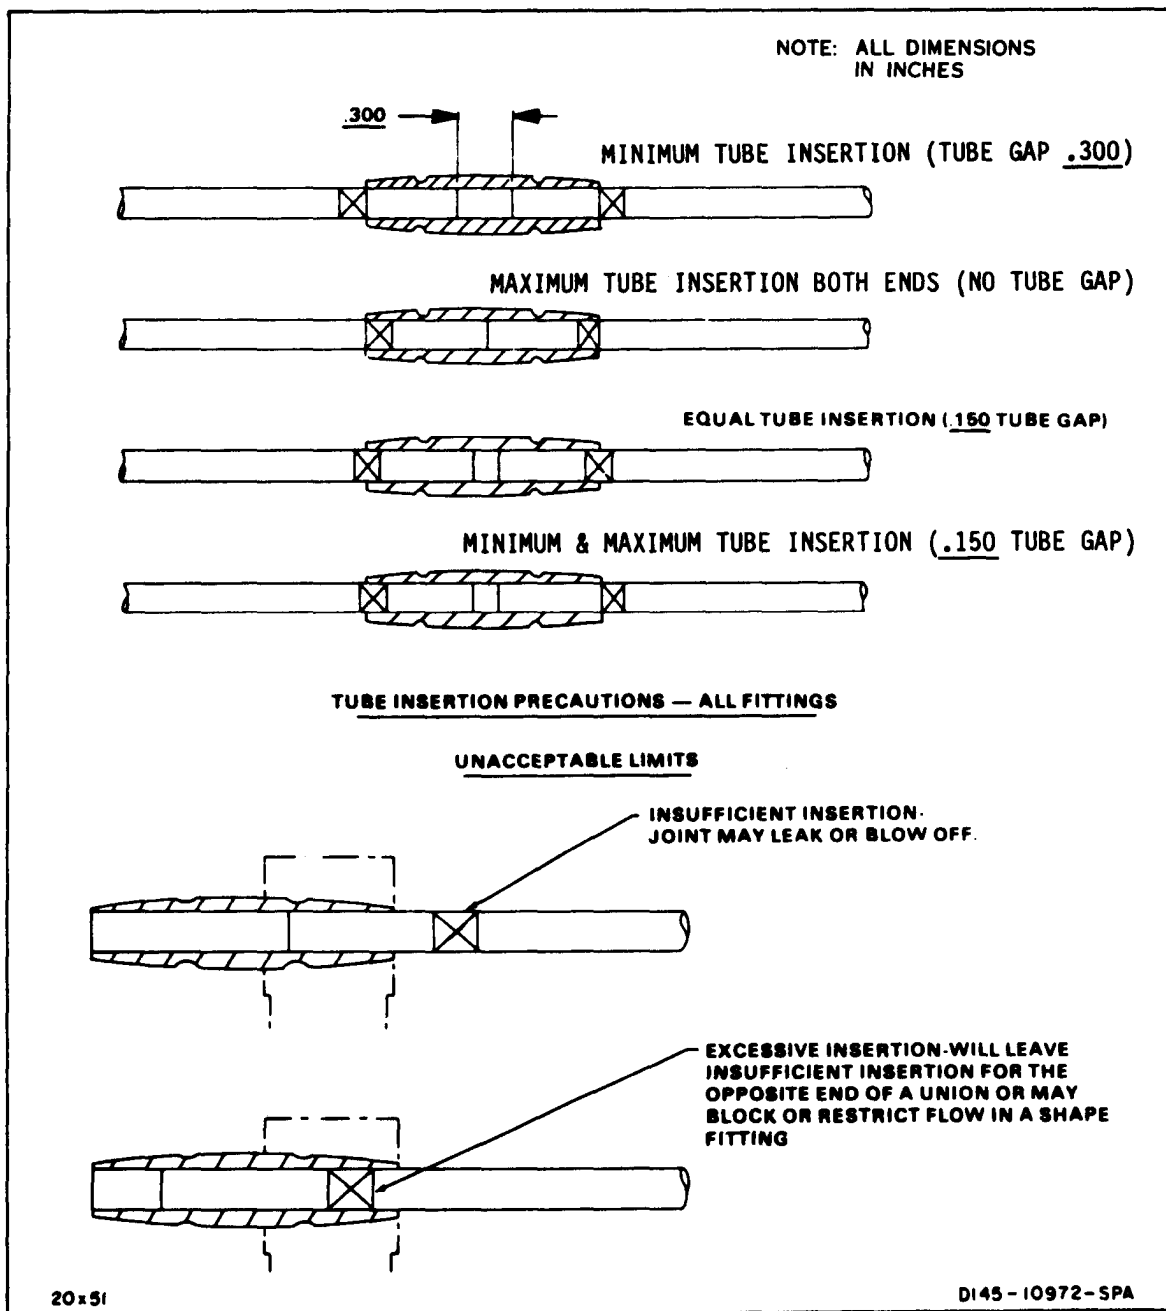

Figure 2-9. Acceptable limits of tube insertion into a union (continued).
25. Position the face of the swaging tool against the location mark on the tube. The outer edge of the latch must fall within the location mark. Tube insertion must be as shown in Figure 2-9.